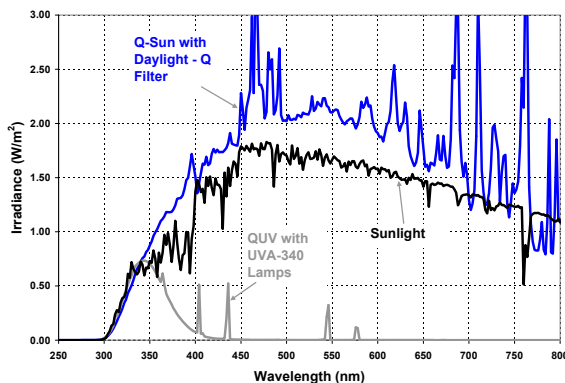

Figure 1- Q-SUN and QUV Testers vs Sunlight
The Q-SUN (xenon arc) and QUV (fluorescent UV) are the most commonly used accelerated weathering testers. The two testers are based on completely different approaches. The xenon test chamber reproduces the entire spectrum of sunlight, including ultraviolet (UV), visible light, and infrared (IR). The xenon arc is essentially an attempt to simulate sunlight itself, from 295 nm - 800 nm (see Figure 1 below).
The QUV Accelerated Weathering Tester, on the other hand, does not attempt to reproduce sunlight, just the damaging effects of sunlight that can occur from 300 nm - 400 nm. It is based on the concept that, for durable materials exposed outdoors, short-wave UV causes the most weathering damage (Figure 1).